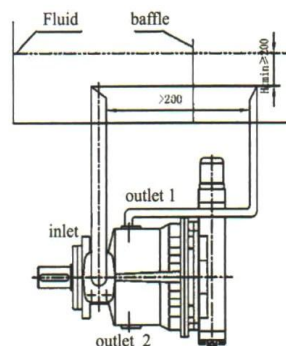

Fig.5
- b) Mounting below the reservoir Pipe ports "outlet 1" and "inlet" according to Fig.5, close port "outlet 2"